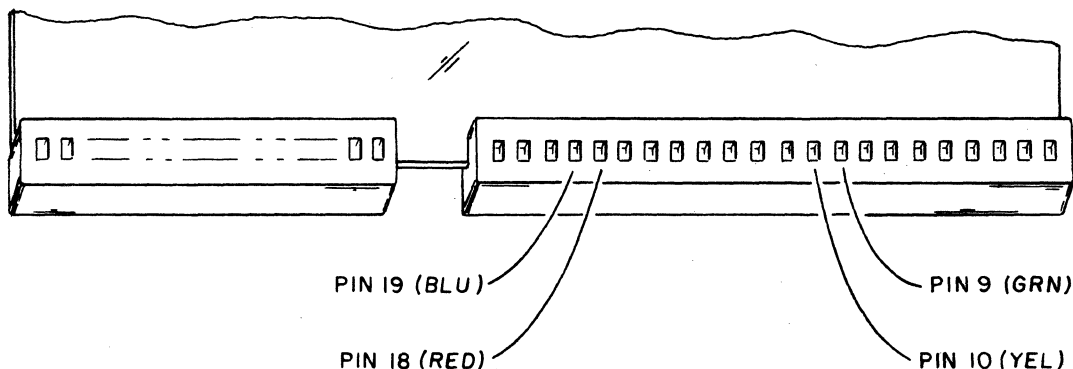

Figure CRT21. Removing Flag Terminals
- 6) Disconnect flag terminals 9, 10, 18, and 19 from BP4 connector (four wires leading to yoke) by inserting small end of paper clip into top of connector in space available between flag terminal and insulation (see figure CRT21) and then pulling out wire gently from bottom of connector. (Flag terminal end has a wedge-type spring clip which, when released by paper clip, permits flag terminal to be withdrawn with wire from connector.)